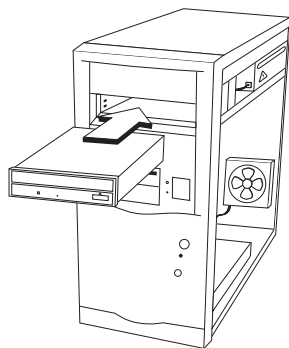
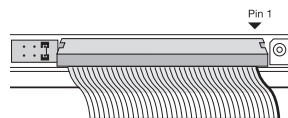

Fig. 5
Fig. 6
- ⑦ Slide the ND-3500A into the empty drive bay, from the front of the computer. [Fig. 5]
- ⑧ Mount the drive to your computer's chassis using the existing mounting hardware, or the provided screws (refer to your computer's documentation).
- ⑨ Connect the interface cable, making sure the red stripe matches Pin 1 on the drive. If your drive is set to MASTER, connect it to the endmost connector on the cable. [Fig. 6]